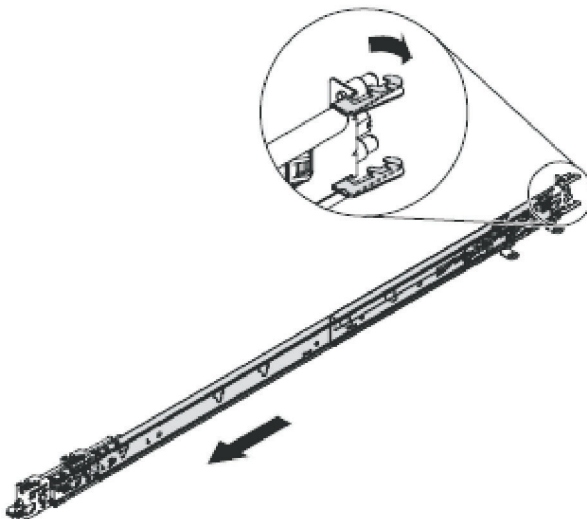

Figure 21. Opening the rear slide-rail hooks
2. Open the rear-slide-rail hooks, as shown in Figure 21.